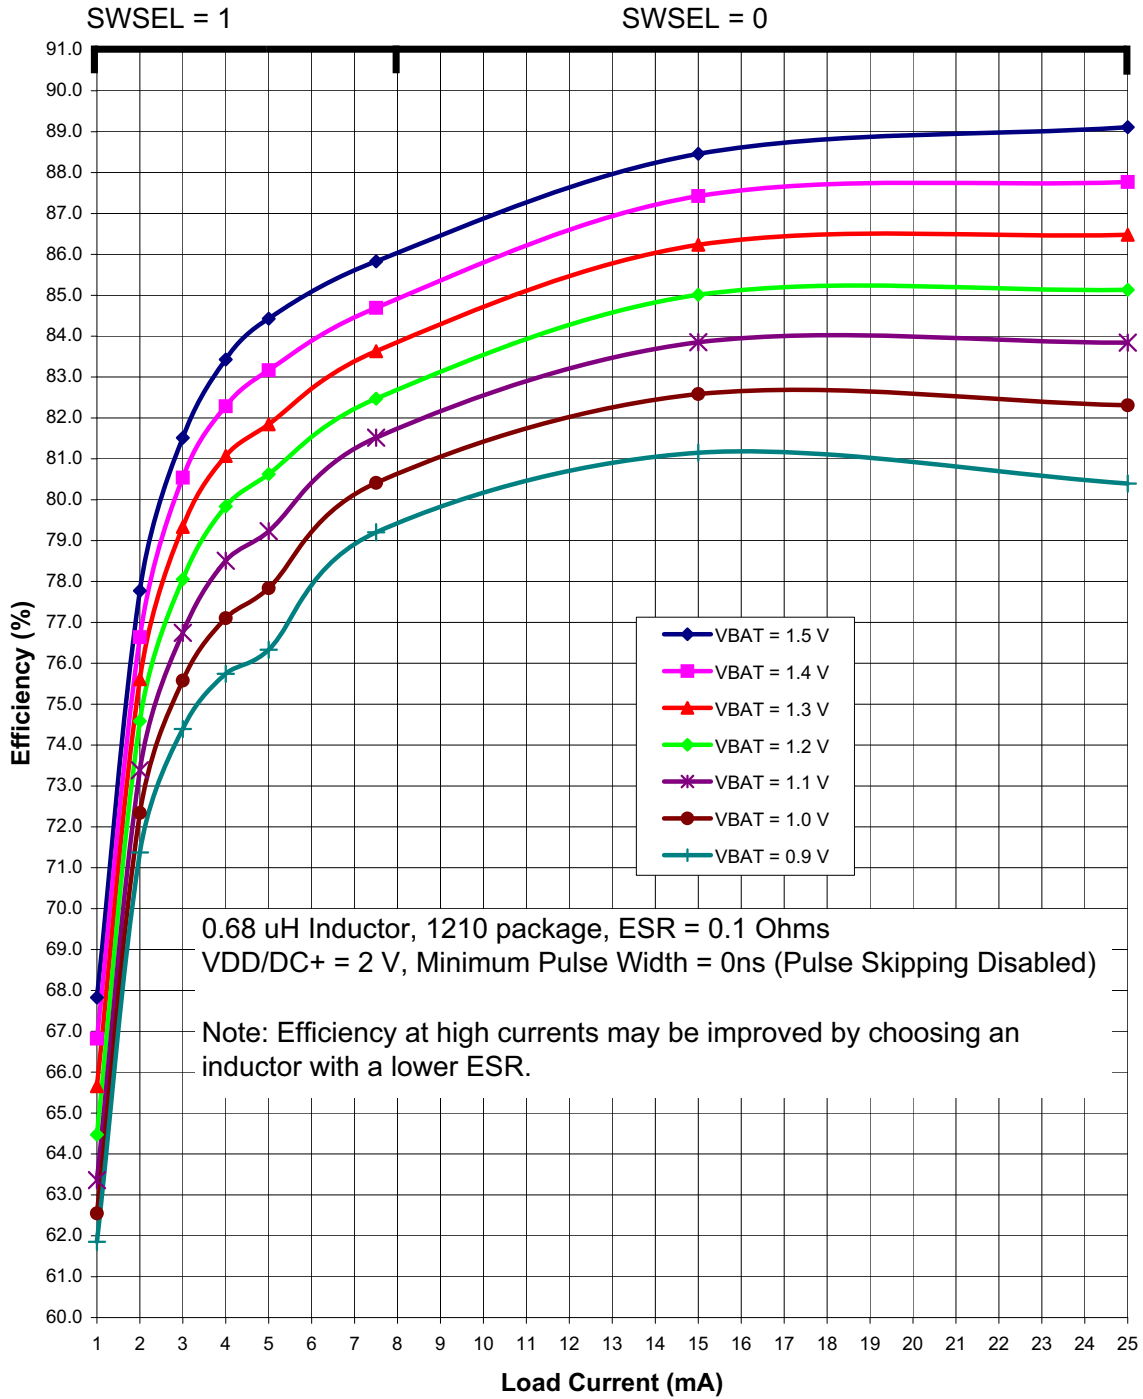
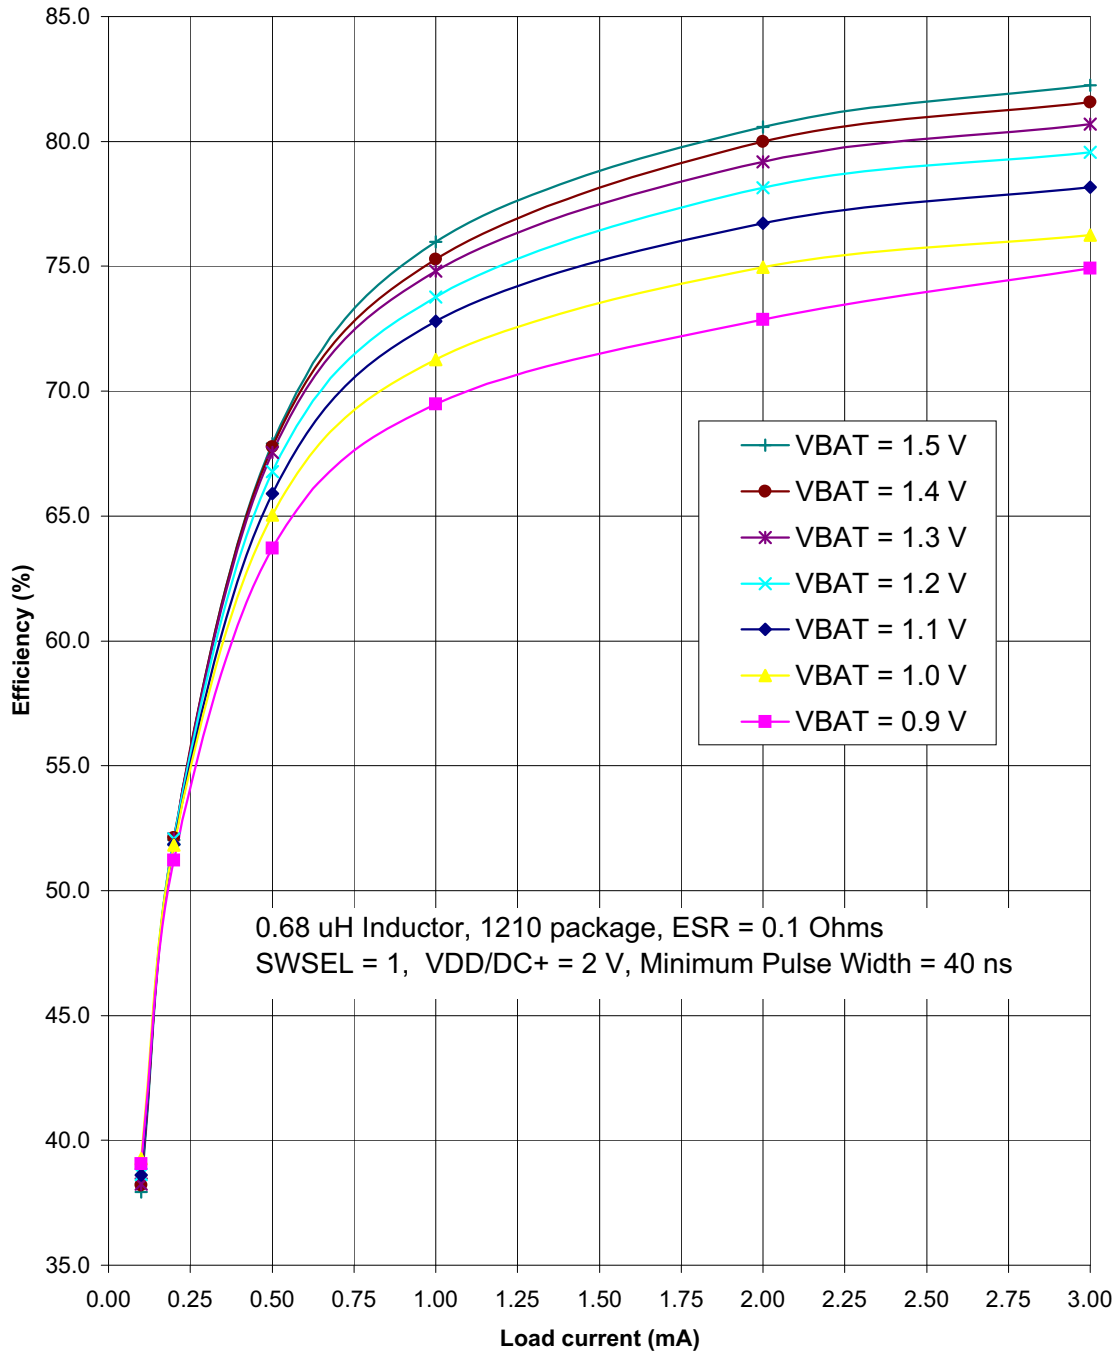

Figure 4.3. Typical DC-DC Converter Efficiency (High Current, VDD/DC+ = 2 V)
Figure 4.5. Typical DC-DC Converter Efficiency (Low Current, VDD/DC+ = 2 V)
<ol style="list-style-type: none"> Based on device characterization data; Not production tested. SYSCLK must be at least 32 kHz to enable debugging. Digital Supply Current depends upon the particular code being executed. The values in this table are obtained with the CPU executing an "sjmp \$" loop, which is the compiled form of a while(1) loop in C. One iteration requires 3 CPU clock cycles, and the Flash memory is read on each cycle. The supply current will vary slightly based on the physical location of the sjmp instruction and the number of Flash address lines that toggle as a result. In the worst case, current can increase by up to 30% if the sjmp loop straddles a 128-byte Flash address boundary (e.g., 0x007F to 0x0080). Real-world code with larger loops and longer linear sequences will have few transitions across the 128-byte address boundaries. Includes oscillator and regulator supply current. IDD can be estimated for frequencies ≤ 10 MHz by simply multiplying the frequency of interest by the frequency sensitivity number for that range, then adding an offset of 90 μA. When using these numbers to estimate I_{DD} for >10 MHz, the estimate should be the current at 25 MHz minus the difference in current indicated by the frequency sensitivity number. For example: $V_{DD} = 3.0$ V; $F = 20$ MHz, $I_{DD} = 4.1$ mA – $(25 \text{ MHz} - 20 \text{ MHz}) \times 0.120 \text{ mA/MHz} = 3.5$ mA. The Supply Voltage is the voltage at the VDD_MCU pin, typically 1.8 to 3.6 V (default = 1.9 V). Idle IDD can be estimated by taking the current at 25 MHz minus the difference in current indicated by the frequency sensitivity number. For example: $V_{DD} = 3.0$ V; $F = 5$ MHz, Idle $I_{DD} = 2.5$ mA – $(25 \text{ MHz} - 5 \text{ MHz}) \times 0.095 \text{ mA/MHz} = 0.6$ mA. The supply current specifications in Table 4.2 are for two cell mode. The VBAT current in one-cell mode can be estimated using the following equation: $\text{VBAT Current (one-cell mode)} = \frac{\text{Supply Voltage} \times \text{Supply Current (two-cell mode)}}{\text{DC-DC Converter Efficiency} \times \text{VBAT Voltage}}$ <p>The VBAT Voltage is the voltage at the VBAT pin, typically 0.9 to 1.8 V. The Supply Current (two-cell mode) is the data sheet specification for supply current. The Supply Voltage is the voltage at the VDD/DC+ pin, typically 1.8 to 3.3 V (default = 1.9 V). The DC-DC Converter Efficiency can be estimated using Figure 4.3–Figure 4.5.</p> The EZRadioPRO peripheral is placed in Shutdown mode.